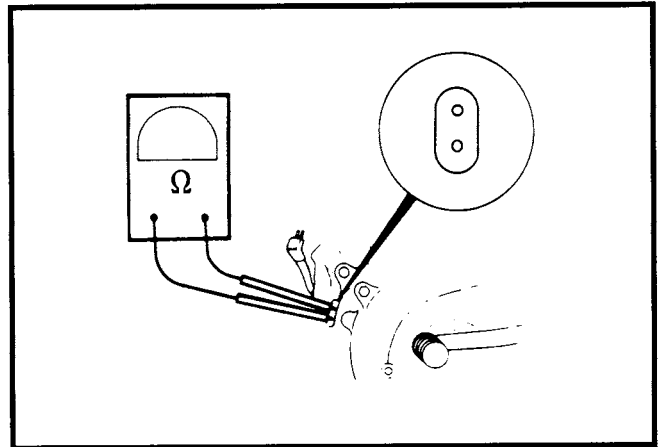

Figure 12. Check for Stator Resistance
3. See Figure 12. Check the resistance using an ohmmeter set on the RX1 scale. Resistance should be 0.1-0.2 ohms across the stator socket. If it is not, then the stator is damaged and must be replaced.